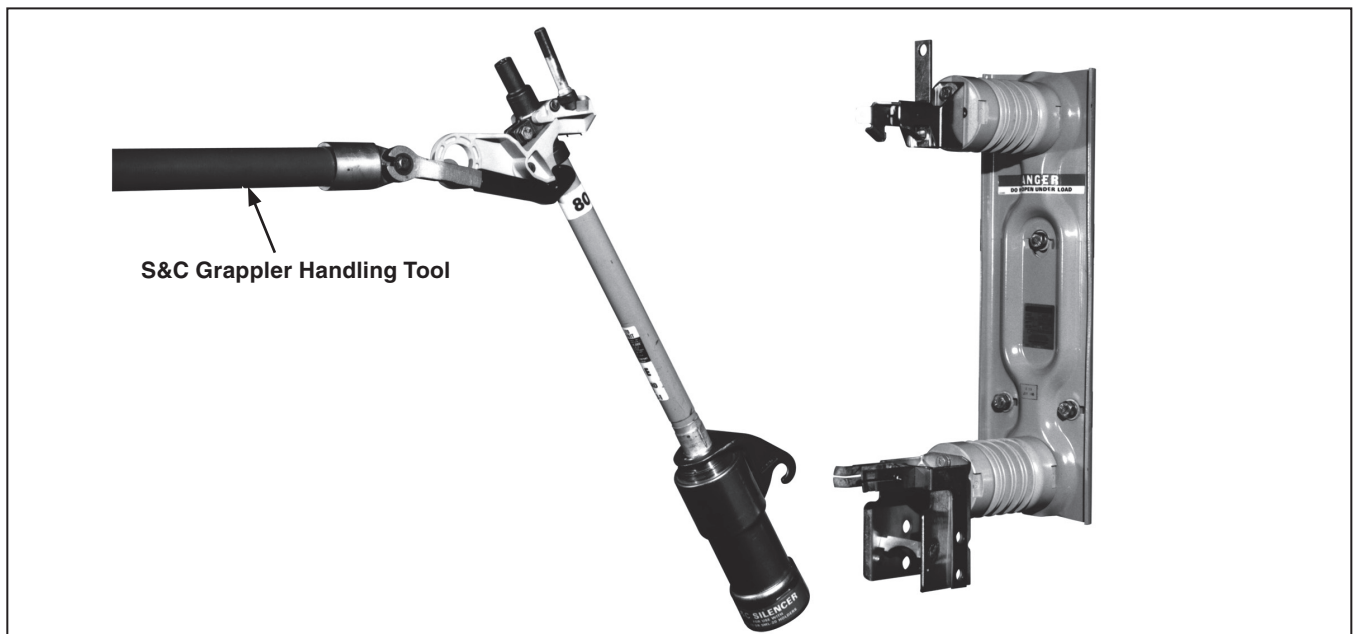

Figure 2. Installing (or removing) a fuse using a Grappler Handling Tool.
- STEP 1.** Insert the fuse (i.e., the fuse unit with the end-fittings attached) in its hinge, using a universal pole● equipped with an S&C Grappler™ Handling Tool.■ Position the Grappler tool cone in the fuse pull-ring and cradle the fuse tube in the Grappler tool prongs. See Figure 2.
- Position the Grappler tool cone in the fuse pull-ring and cradle the fuse in the Grappler tool prongs. See Figure 2 on page 7.